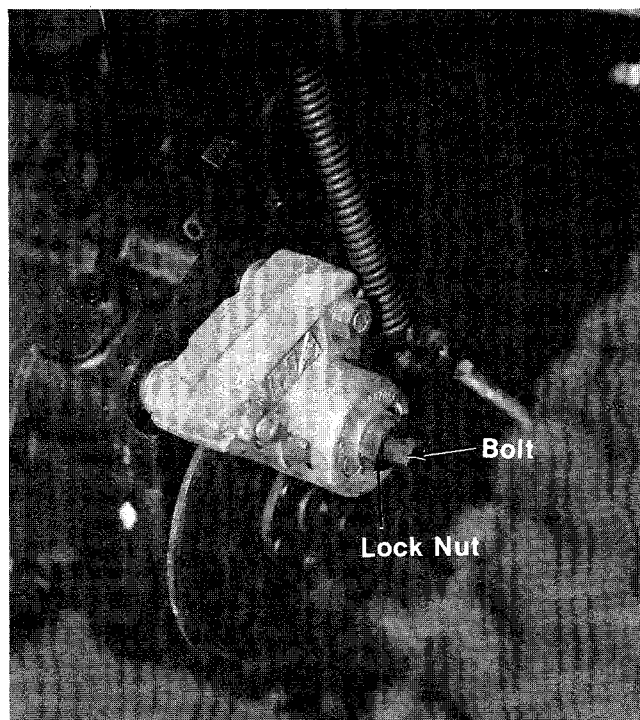

FIGURE 20.
1. Loosen the lock nut. (See figure 20.)